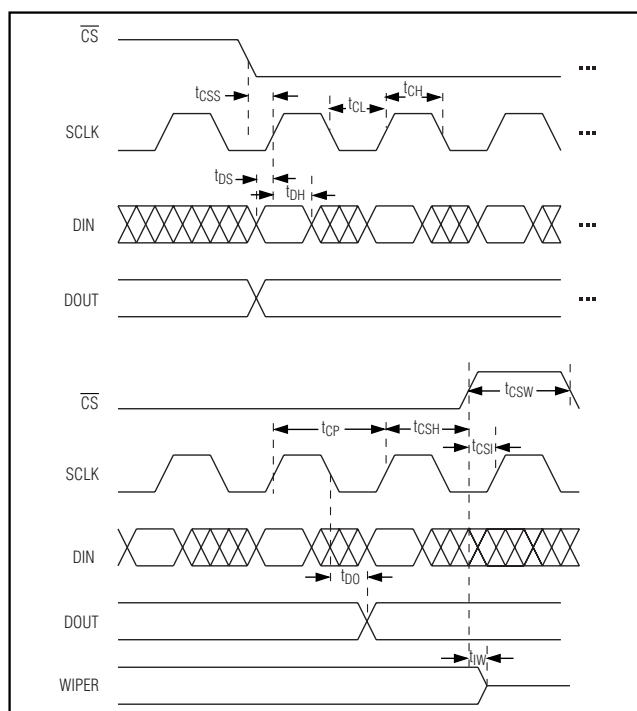

Figure 1. Serial Timing Diagram
| TIMING CHARACTERISTICS (Figure 1)     |             |                                              |                   |     |     |         |
The data bits control the position of the wiper (Table 7). A logic low on the chip-select input (CS) enables the device’s serial interface. A logic high on CS disables the interface control circuitry. See Figure 1 for serial-interface timing description.